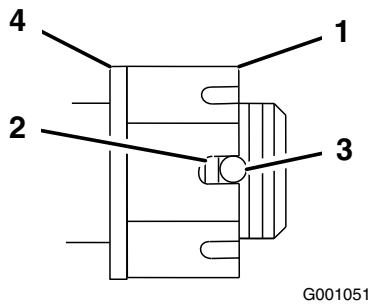

Figure 48
4. Check the distance from bottom of slot in nut to inside edge of hole. Two threads or less should be showing (Figure 48).
6. Torque the slotted nut to 125 ft-lb. (170 N-m) (Figure 48).
7. Tighten the nut until the next set of slots line up with the hole in the shaft (Figure 48).